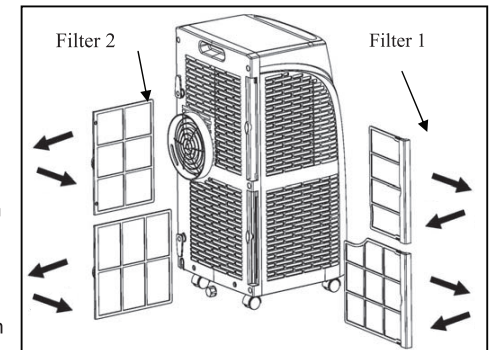

Fig.15
- Pull out the filters in the directions shown in Fig.15.
- Install filters to the original position in the direction as shown in Fig.15.